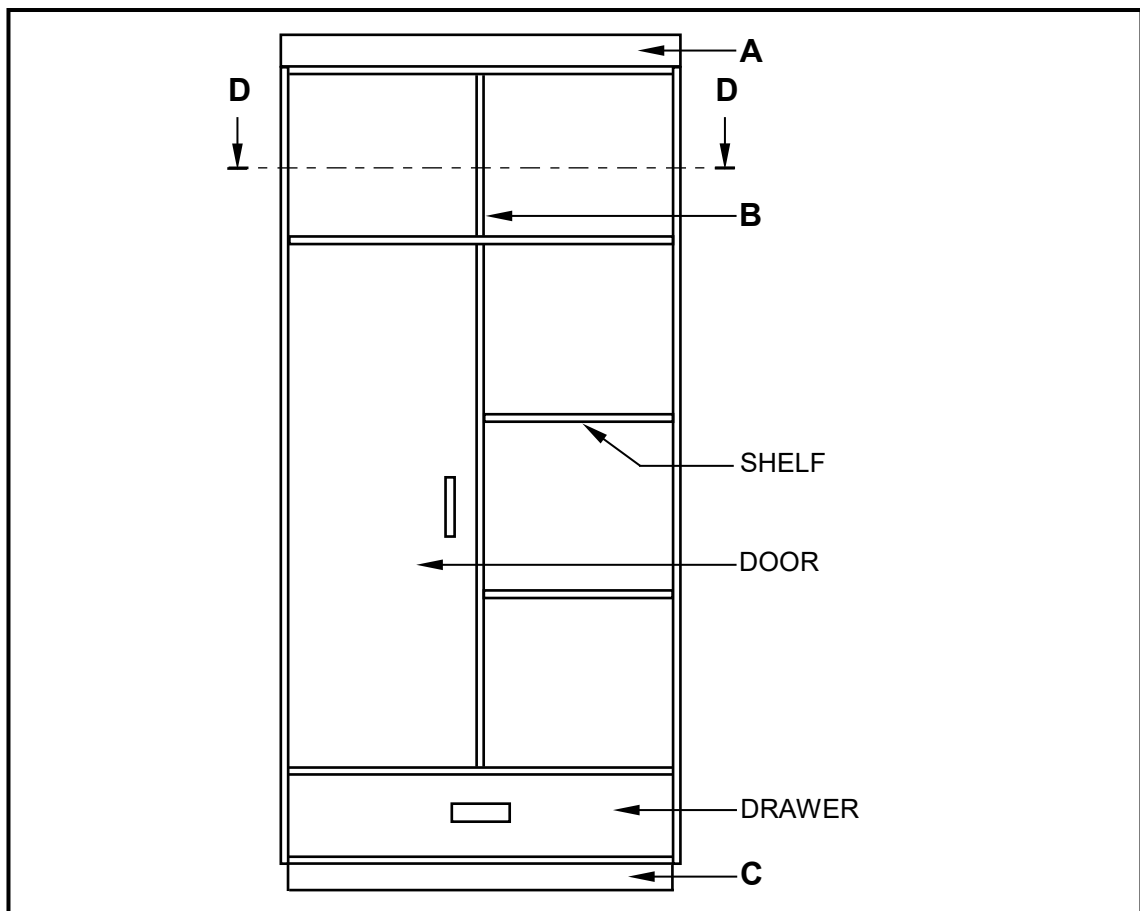

FIGURE 3.1
- 3.1 FIGURE 3.1 below shows the front elevation of a free-standing cupboard with a door, a drawer and open shelves. The backing of the cupboard is made of 16 mm melamine board that is nailed onto the back of the cupboard.